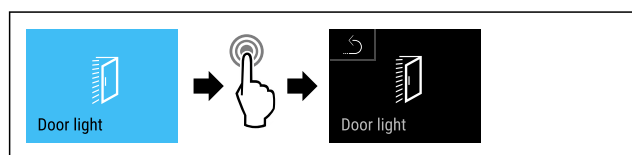

Fig. 75
- ▶ Complete the steps (see Fig. 75).